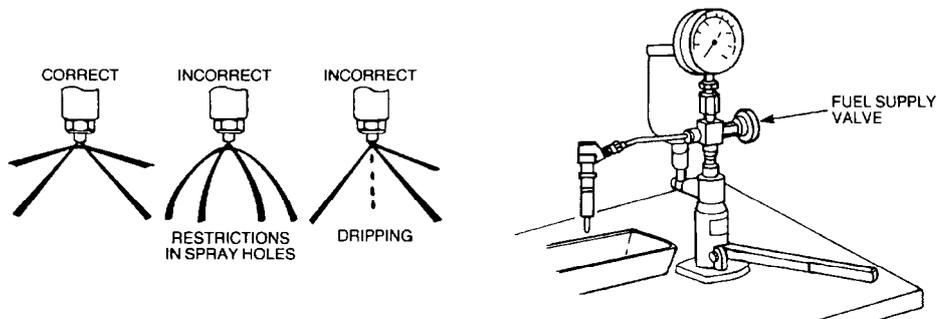

Figure 141 Injector Spray Pattern Test
- Close off the fuel supply to the gauge and operate the handle two to three times while observing the spray pattern (Figure 141).